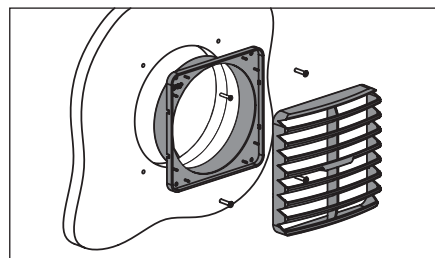

Fig. 20
3. Fix Grille base with four 6 G screws and snap ft the Grille louvres over the Grille base as shown in Fig. 20.